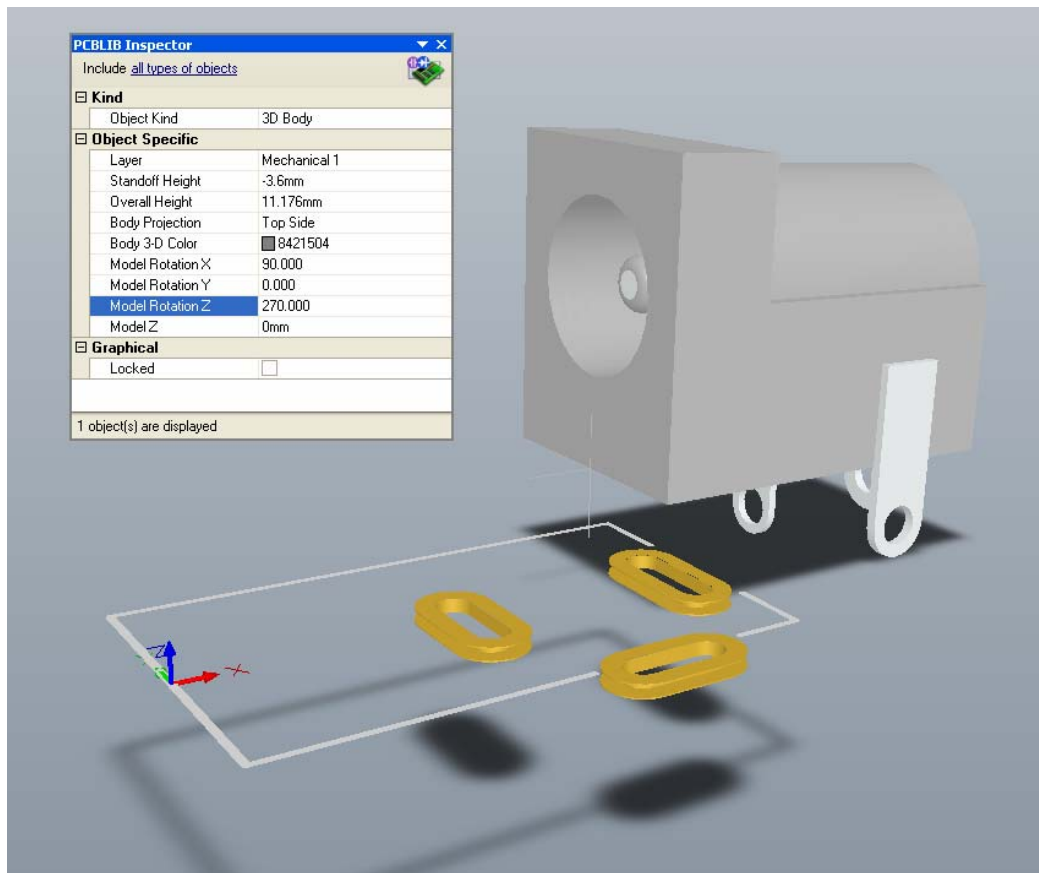

Figure 17. Use the Inspector to test different rotation values.
10. Experiment with different values in the Model Rotation fields (as shown in Figure 17). Keep in mind that you are rotating *around* the axis that you are editing.